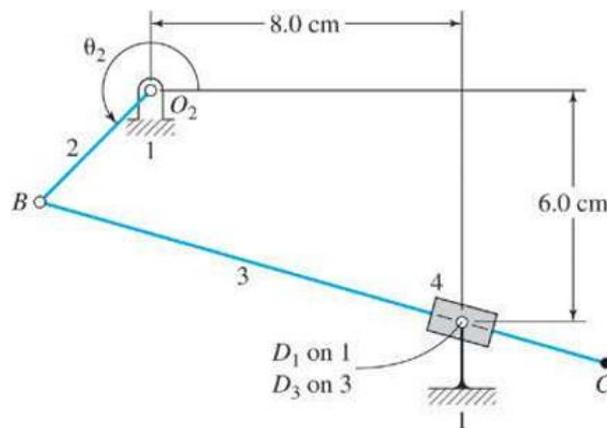

Fig. 3
3. For the mechanism as shown in Fig. 3, the origin of the coordinate system is on  $O_2$ , and the x axis is along the horizontal and directs to the right. The angular positions of links 2 and 3 are measured CCW from (positive) x axis. The distance between  $O_2$  and B is 5 cm, and that between B and C is 17 cm. If  $\theta_2 = 210^\circ$ , and  $\omega_2 = 60$  rad/sec CW (constant), please write the **vector equation** for the linkage shown and determine analytically the angular position, velocity, and acceleration of link 3.